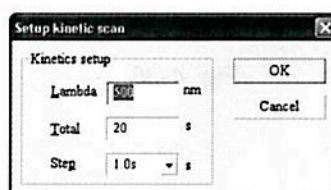

Fig. 4-39
3. Click  on the toolbar. A dialogue box will be displayed (Fig. 4-39). Key in the wavelength, total time (in seconds) and scan step in the above dialog box. The wavelength range should be within 190 to 1100 nm. The upper limit for total time is 100000 seconds. Seven scan intervals can be selected from 0.5S, 1S, 2S, 5S, 10S, 30S and 60S. Click OK.